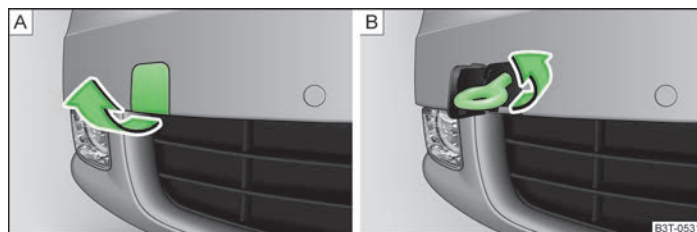

Fig. 181 Front bumper: Removing the cap/installing the towing eye
- Remove the cap from the front bumper » Fig. 181 - A.
- Screw in the towing eye by turning to the left up to the stop » Fig. 181 - B and tighten as much as possible. For tightening purposes, we recommend, for example, using the wheel wrench, towing eye from another vehicle or a similar object that can be pushed through the eye.